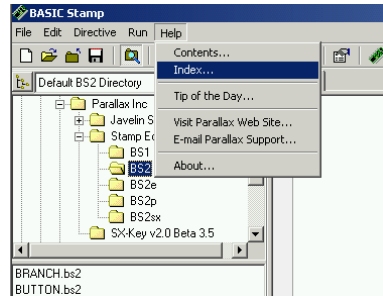

Figure 1-46
- ✓ In the BASIC Stamp Editor, Click Help, then select Index as shown in Figure 1-46.